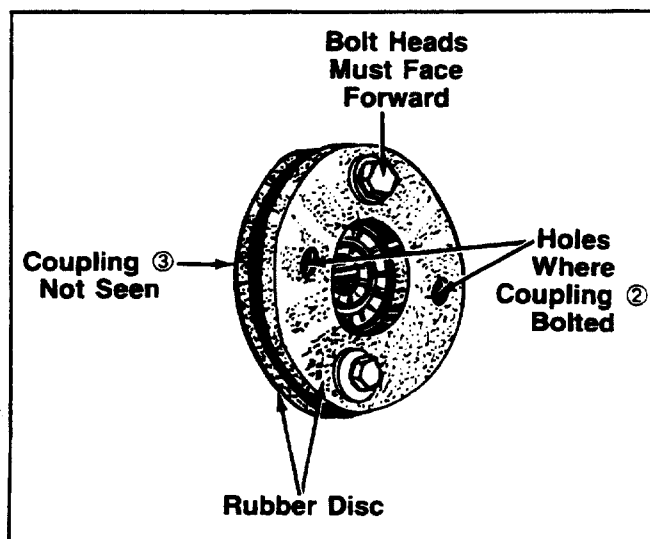

FIGURE 8.
11. Remove the bolts and nuts on coupling ③; reverse the bolts and nuts so that all bolt heads are facing forward (to the front of the tractor). See figure 8. Units with serial no. 756,301 and above will already have bolt heads facing forward.